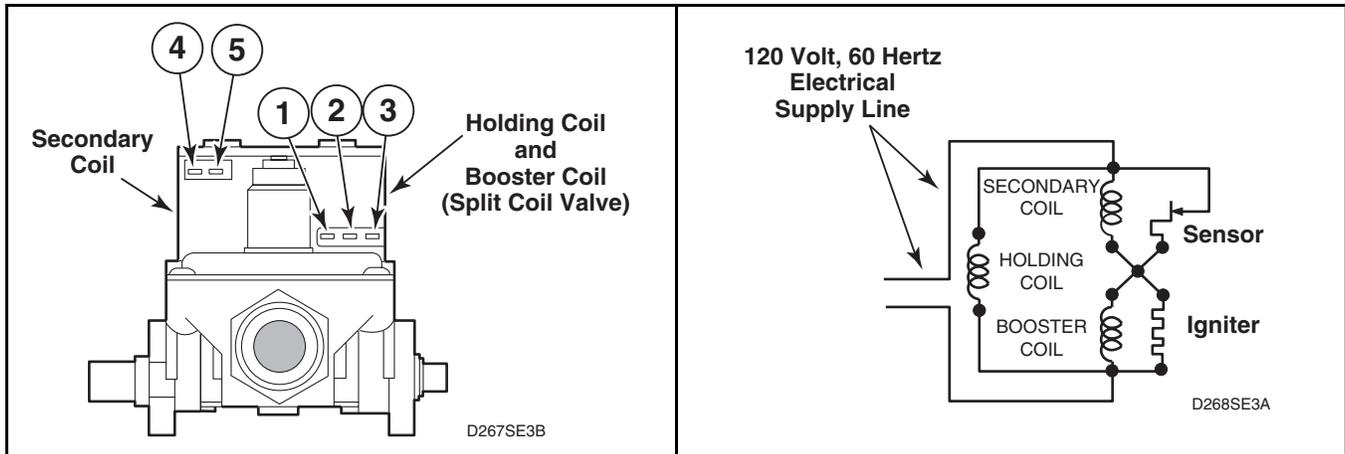

Figure 47
68. BURNER SYSTEM OPERATION (Gas Models – Refer to *Figure 47.*)
- f. Set test meter to read AC voltage and apply meter probes into terminals on the dryer harness plug that would correspond to terminals "1" and "2" on the coil. *Figure 47*. Meter should register line voltage in all Fabric settings, except NO HEAT/AIR FLUFF which should read "zero" VAC.